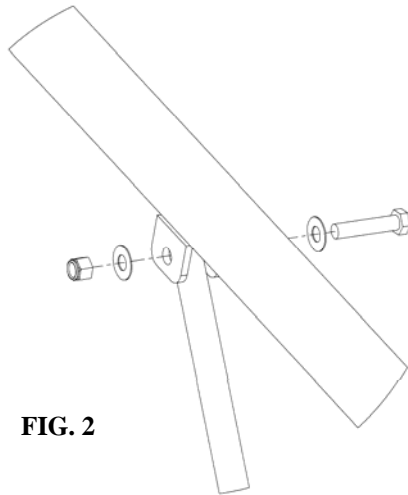

FIG. 2
3. Connect the upper end of the hydraulic ram to the boom with one 3/8"x1-3/4" hex head bolt, two washers, and a 3/8" nylon locking nut. **FIG. 2**